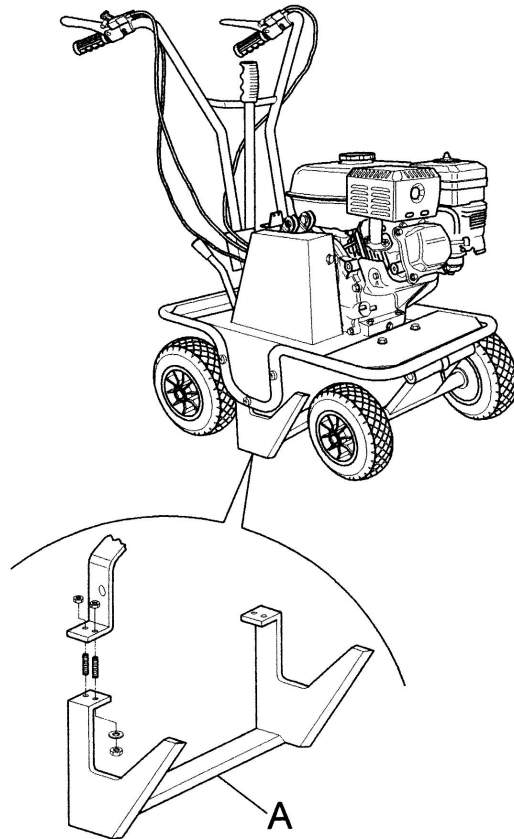

FIG. 10
- During work operations if the blade (Fig. 10, ref. A) Strikes stones or stumps stop straightaway and make sure that it has not become bent or broken. A damaged blade must be replaced.